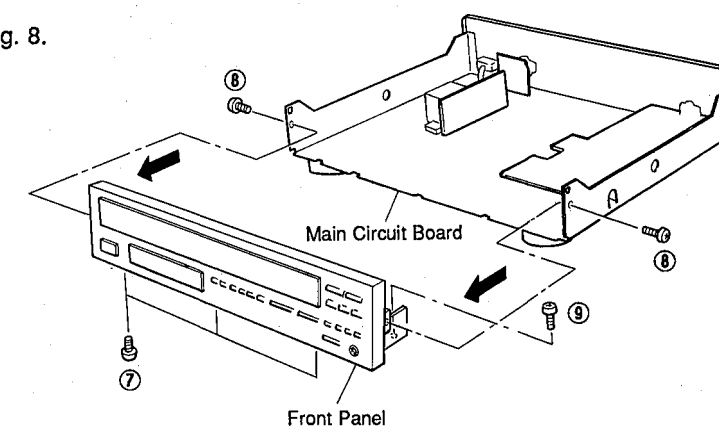

Fig. 8
- Remove 5 screws , (⑦ , ⑧) and also 1 screw (⑨) as shown in Fig. 8.
- Take off the Front Panel Unit slowly as shown in Fig. 8.